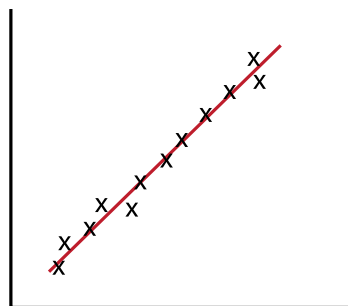

Figure 4
6. Graphs will vary, but all should show a trend of the temperature increasing as the number of particles increases, such as in Figure 4.